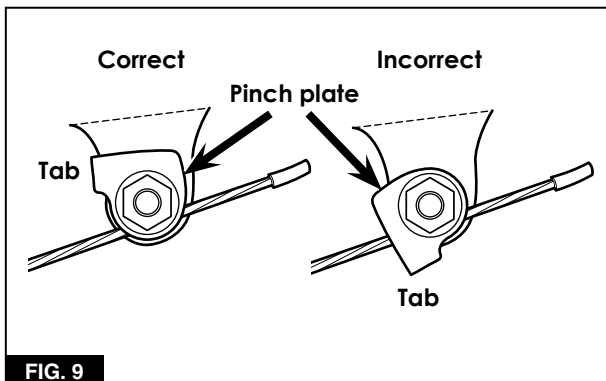

FIG. 9
11. Manually tighten the anchor bolt (B, **Figure 2**) so the inner wire is secured in the pinch mechanism groove. Look directly at the pinch mechanism. The tab on the pinch plate should be inboard of the inner wire as shown in **Figure 9**.
a. Check the position of the inner wire in the pinch mechanism. The wire should follow the groove in the pinch plate, and the pinch plate tab should be inboard of the wire when you look directly at the pinch-mechanism stud (**Figure 9**).